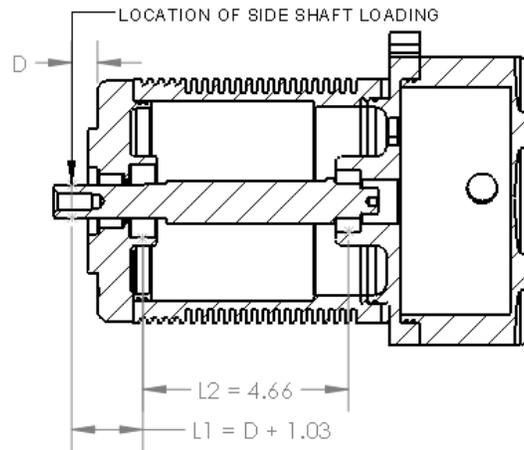

Figure 4: Dimensions for estimating front bearing radial load.
1. Determine distance from motor face where side load is centered (dimension D in Figure 4).